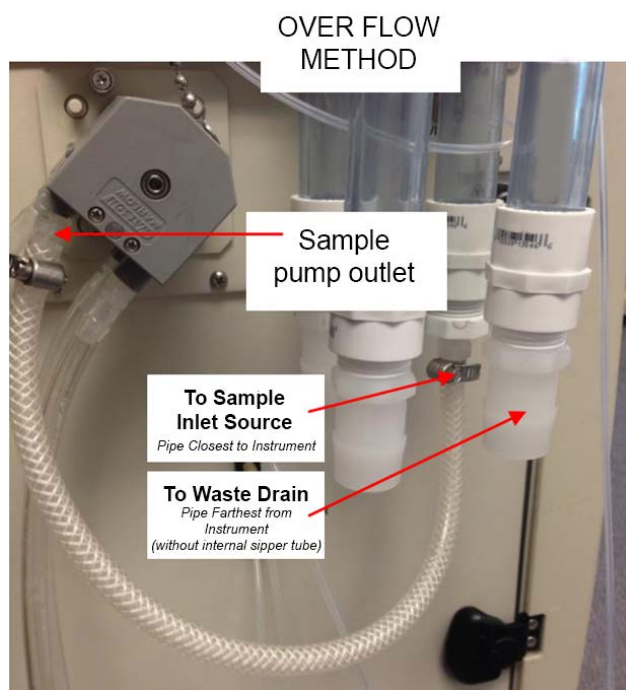
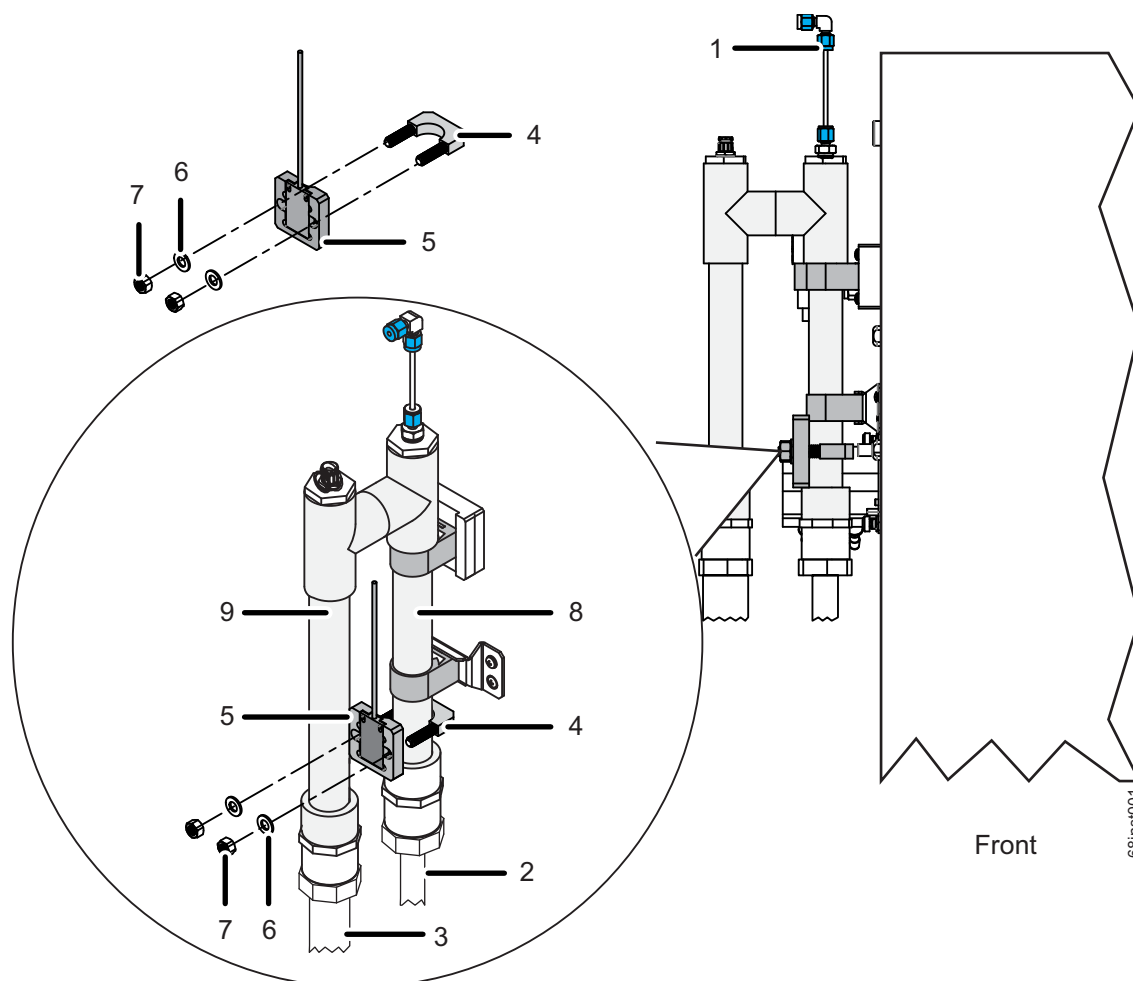

Figure 32: 2-Stream, Overflow Mode — Installation
Figure 33: Overflow Mode — Fail Safe Installation
12. Remove the U-bolt (**4**) from the sensor (**5**) and position the U-bolt (**4**) over and near the end of the pipe with the sipper tube (**8**). See Figure 33: Overflow Mode — Fail Safe Installation on page 99.
15. Connect the pipe nearest the instrument (the pipe *with* the internal sipper tube (8)) to the sample source (2). (See Figure 33: Overflow Mode — Fail Safe Installation on page 99, and Figure 32: 2-Stream, Overflow Mode — Installation on page 98.)
16. Connect the pipe farthest from the instrument (the pipe *without* the internal sipper tube (3)) to the waste outlet, connected to a gravity drain. This will insure that no back pressure (< 7 kPa, 1 psi) is created within the Analyzer. (See Figure 32: 2-Stream, Overflow Mode — Installation on page 98.)